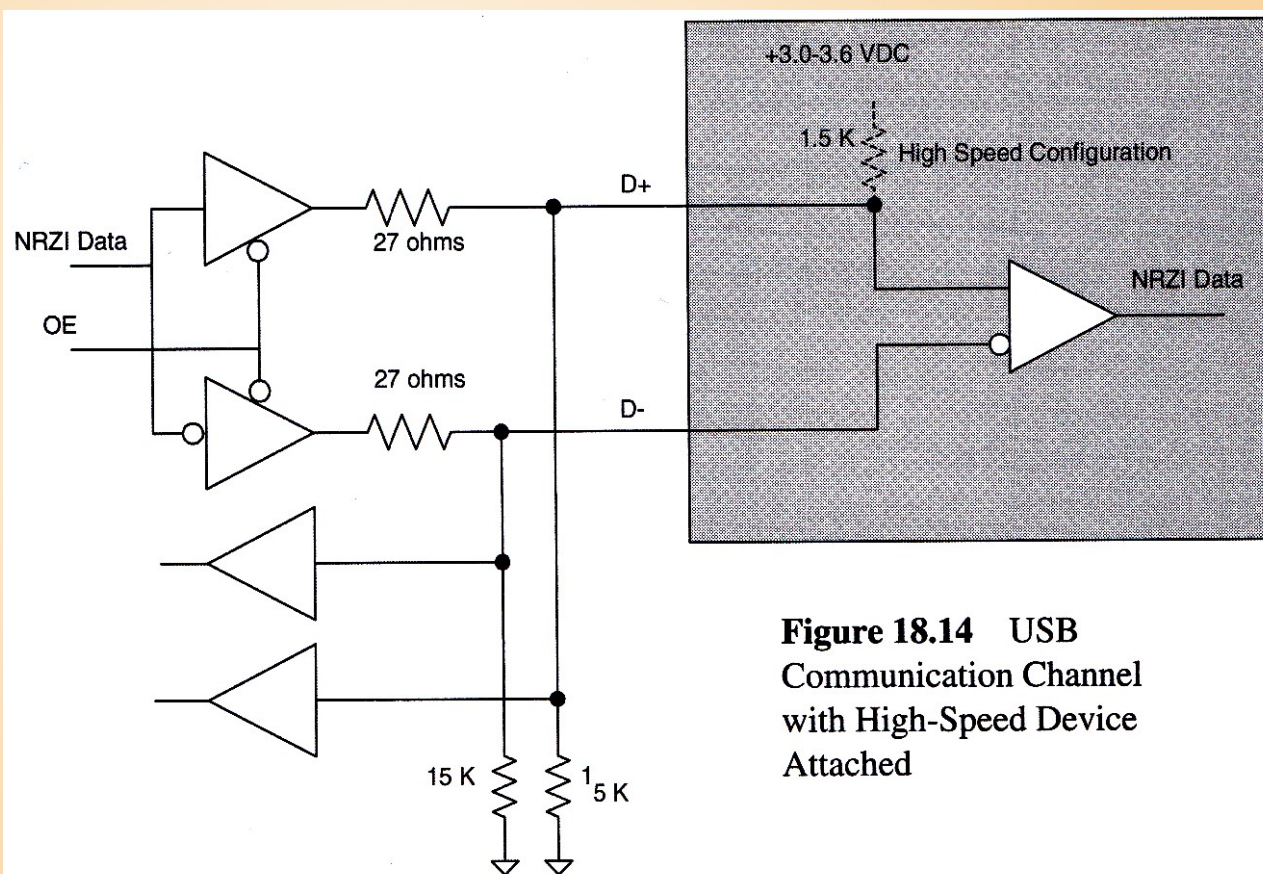

Figure 18.14 USB Communication Channel with High-Speed Device Attached
- Detection is accomplished by monitoring the differential data lines after cable power is applied to the port. Figure 18.14 illustrates the device configured for full-speed operation. The channel from the device back to the host has been left off.